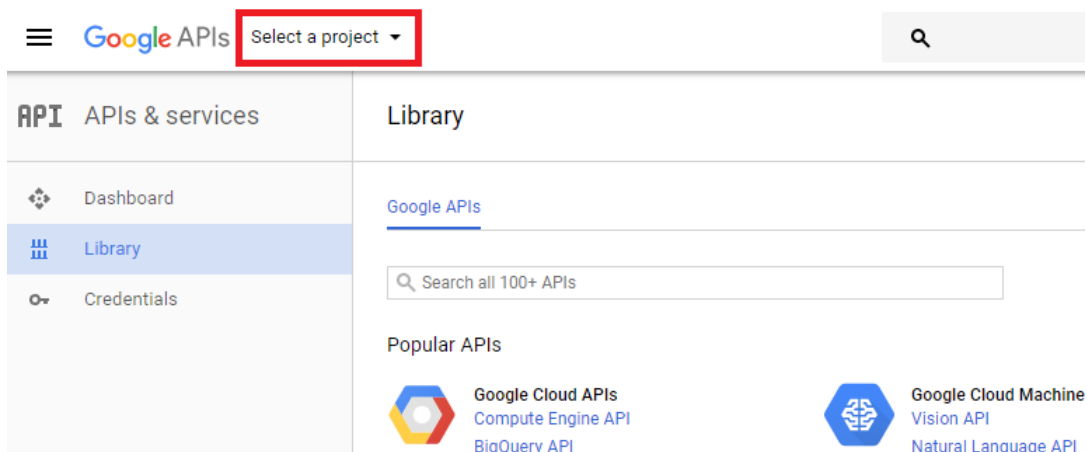

Figure 158 Google Developer Console Drop-Down Menu
- 2 Click **Select a project** in the upper-left part of the screen (Figure 158).
6 Click the **Select a project** menu (see Figure 158), then click the **Leak Detection Application** project (see Figure 161).